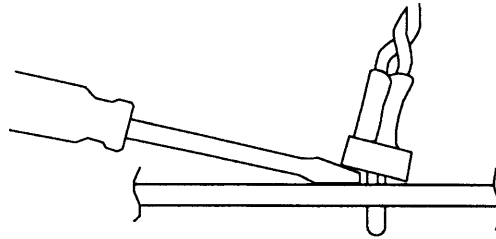

FIGURE 33
3. Pry the small plastic retaining ring from around the LED holder with a jeweler's screwdriver (Figure 33). Slide the retaining ring up the wires and out of the way.